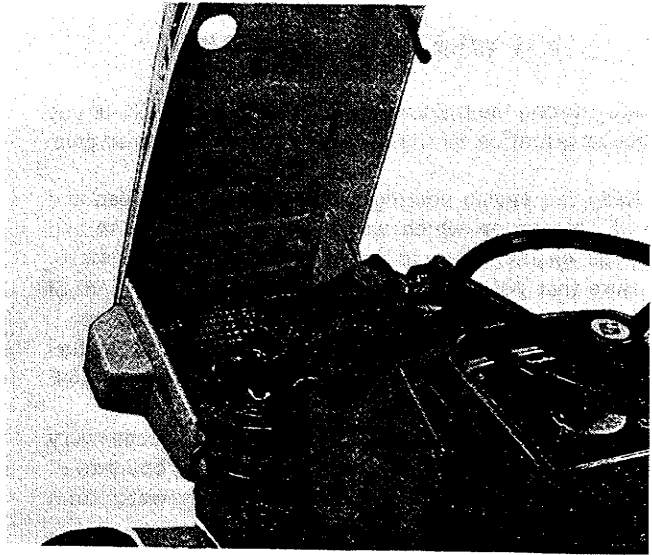
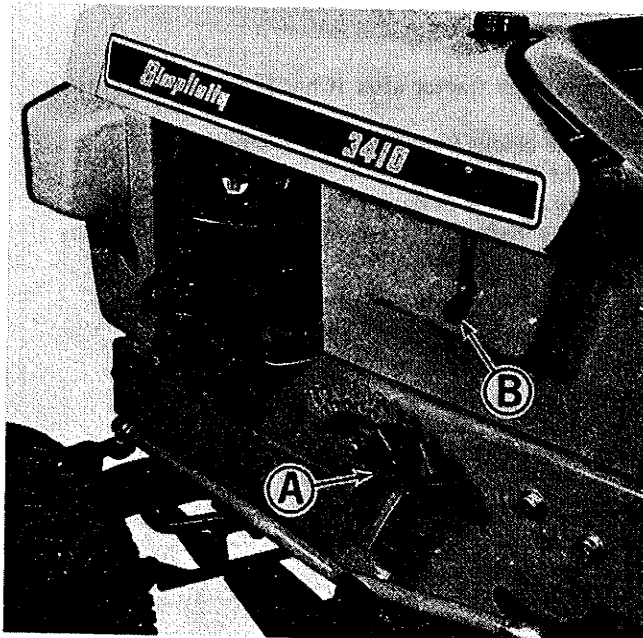

Figure 7. Tractor hood raised for easy access.
Figure 6. Left side of tractor.
See figure 6. The tractor hood is hinged at the front by two springloaded bolts. It may be easily opened by releasing the two rubber straps (B) located on either side of the hood. Pull down and out on the straps to release them. See figure 7. Lift upward on the back of the hood to raise it as shown. The hood raised in this position provides easy access to the generator, battery, fuel tank, engine, etc.